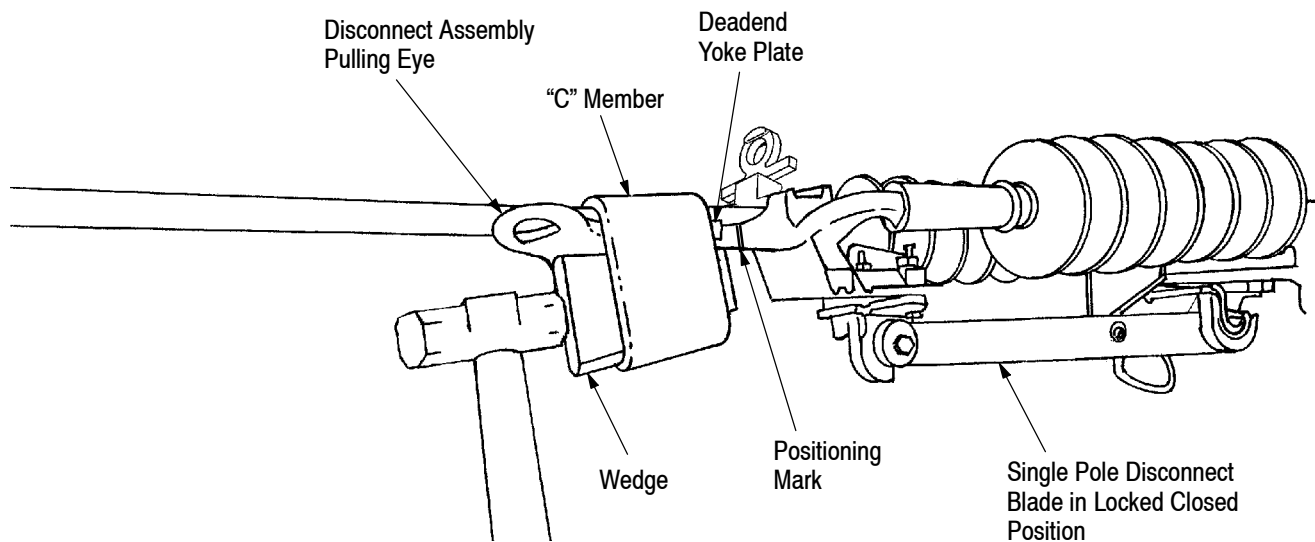

Figure 6
2. Center the “C” member between the assembly pulling eye and the positioning mark on the side of the deadend yoke plate. Make sure the wide end of the “C” member is adjacent to the pulling eye. Refer to Figure 6.
3. Install the tap connector wedge with the large groove positioned against the deadend yoke plate. See Figure 6. After installation, the markings on the wedge should be visible (refer to Figure 1).
NOTE  Ensure that the single pole disconnect blade is in the locked closed position. Refer to Figure 6.